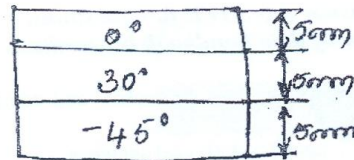

Fig.Q6(b)
- b. Find the three stiffness matrices [A], [B] and [D] for a three ply [0/30/-45] graphite/epoxy laminate as shown in Fig.Q6(b). Assume each lamina has a thickness of 5 mm.